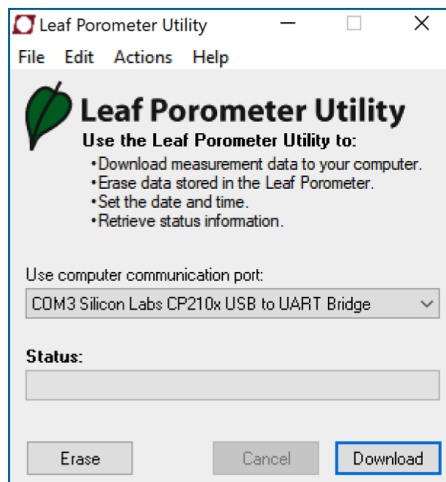

Figure 23 Leaf Porometer Utility main window
3. Open Leaf Porometer Utility (Figure 23).
5. Click `Erase` (Figure 23).